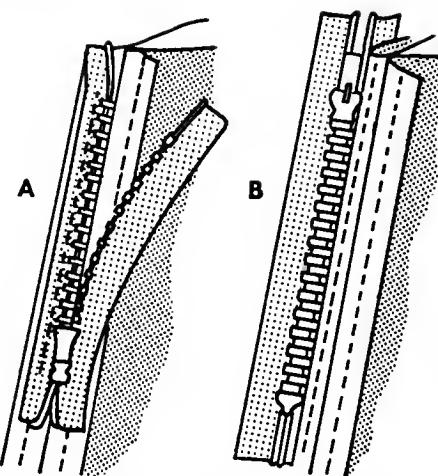

**Fig. 295.** Making the placket opening.
- A. Use a long machine stitch, stitching from the bottom of the skirt placket to the top (Fig. 295).